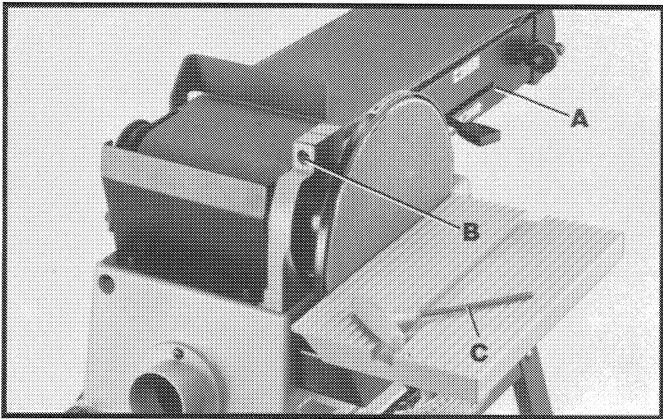
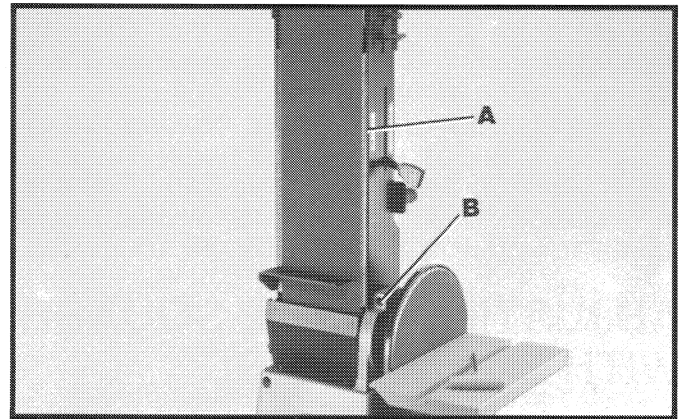

Fig. 22
Fig. 23
1. The sanding arm (A) can be used in the horizontal position, as shown in Fig. 22; vertical position, as shown in Fig. 23; or any angle in between by loosening screw (B) with hex wrench (C) supplied, positioning the arm (A) to the desired angle, and tightening screw (B).